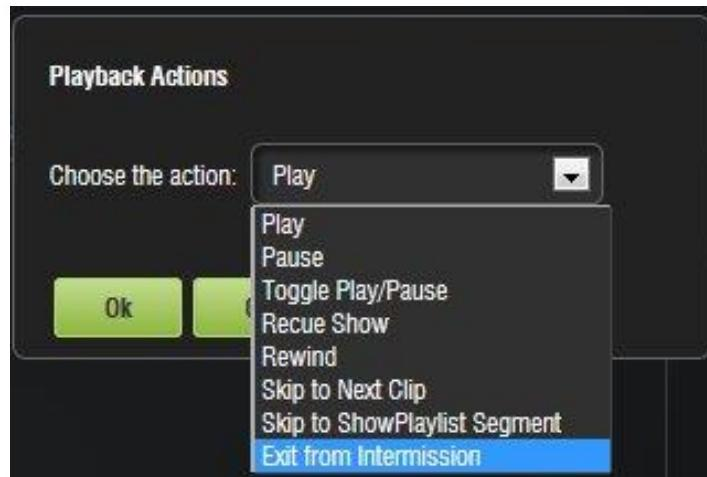

Figure 261: Exit from Intermission
- Select Exit from Intermission from the drop-down menu and click OK (Figure 261).